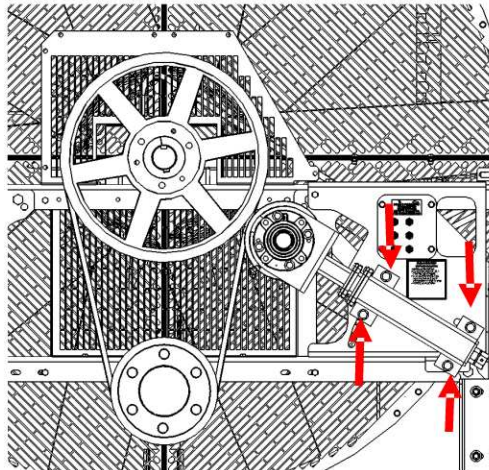

Figure 12: Tensioner in shipping position
- On some units, IEA ships the radiator with the tensioner away from the working location. Loosen bolts holding tensioner in place. Nuts only have to be loose enough to allow movement. Refer to **Figure 12** below.